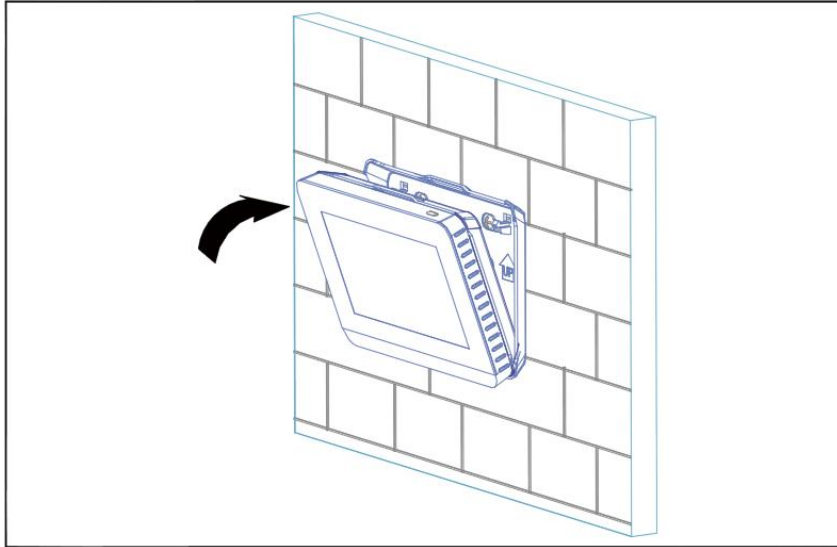

Figure 6
3.1.5 Press the upper part of the central controller into the back cover, so it gives a click sound, as shown in Figure 6.